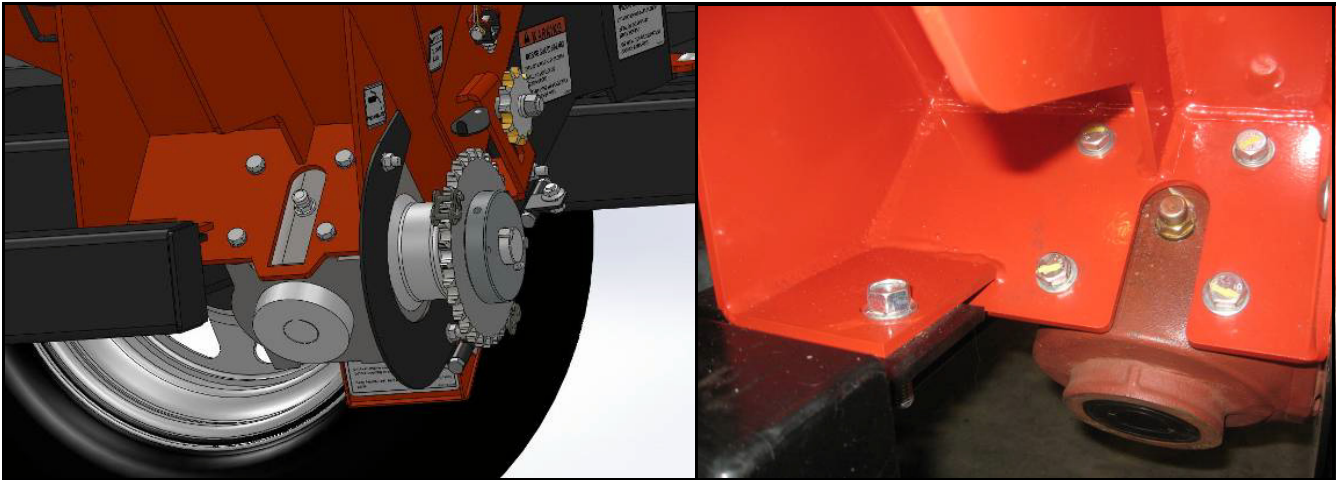

Figure 5.19 Mounted Gearbox
1. Open the chain guard and remove the drive chain (see Figure 5.19).